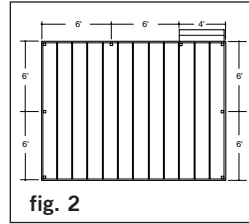

fig. 2
Step 1: Determine the number of railing posts needed for your deck. Post spacing of 6' on-center is recommended. Example – a 12'x16' deck attached to a building with a 4' access opening on one side will require a total of 8 posts (Figure 2).